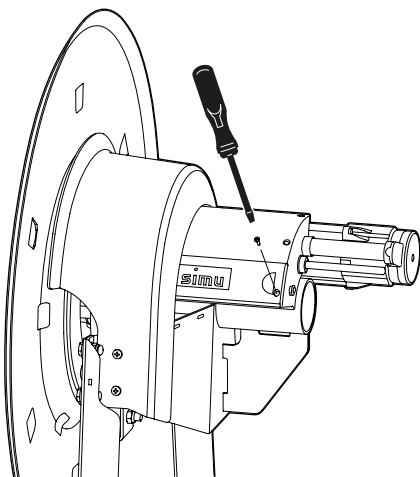

Fig. 6
1. Open the cover, see Fig. 6.